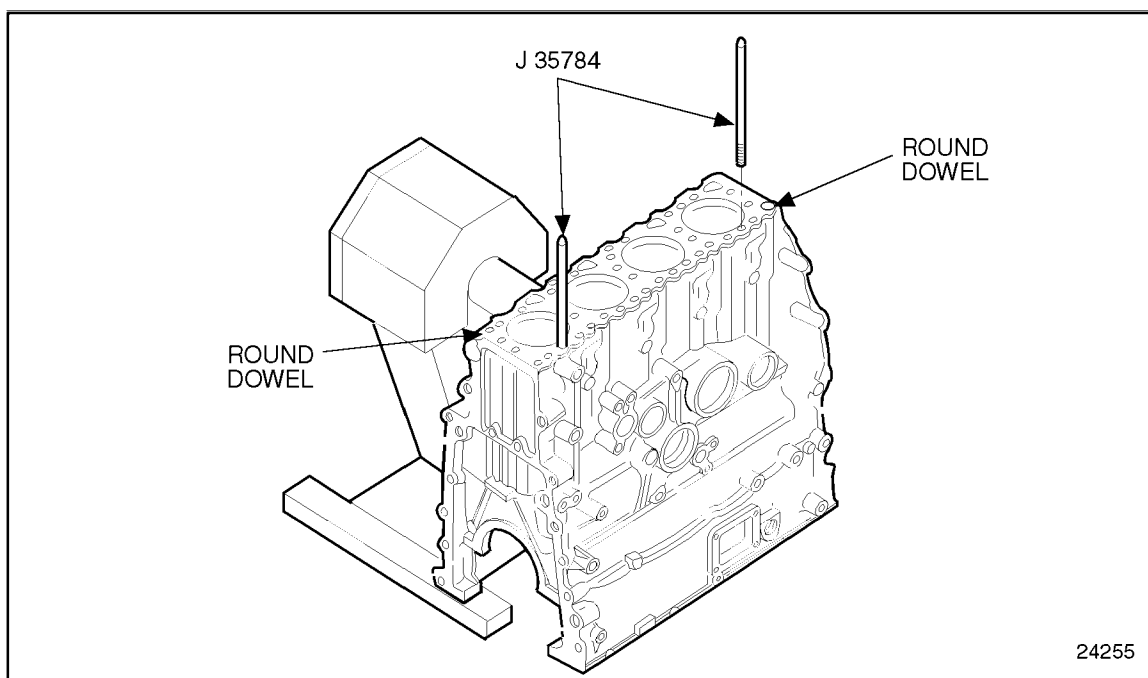

Figure 1-40 **Cylinder Head Guide Studs**
2. Position the head gasket on the block and install cylinder head guide studs, J 35784, at front and rear of the block. See Figure 1-40.
3. Lift the head into position with lift bracket, J 35641-A. See Figure 1-34. Lower it into place over the guide studs, J 35784, until it seats on the block deck dowels. See Figure 1-40.